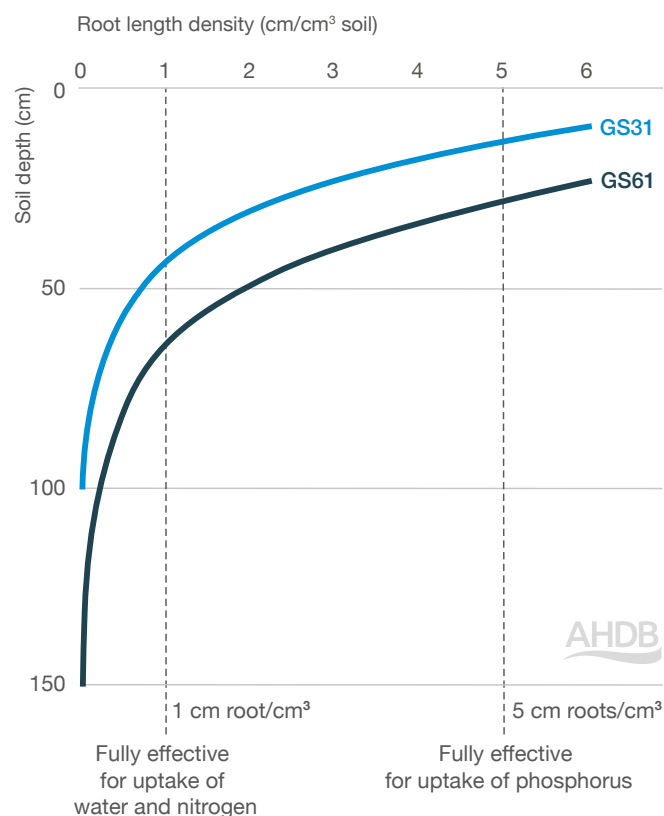

Figure 13. Roots fully utilise water and nitrogen to about 40 cm depth at GS31 and to 70 cm depth by GS61
High rates of uptake of less mobile nutrients, such as phosphorus (P), only occur when root length densities (RLDs) exceed 5 cm/cm³ of soil. Lower root length densities are adequate for potassium (K) uptake and about 1 cm/cm³ is needed for the take-up of most of the available water and water-soluble nutrients, such as nitrogen. Lower RLDs will take up less of the available water and nutrients, this is shown in Figure 13.